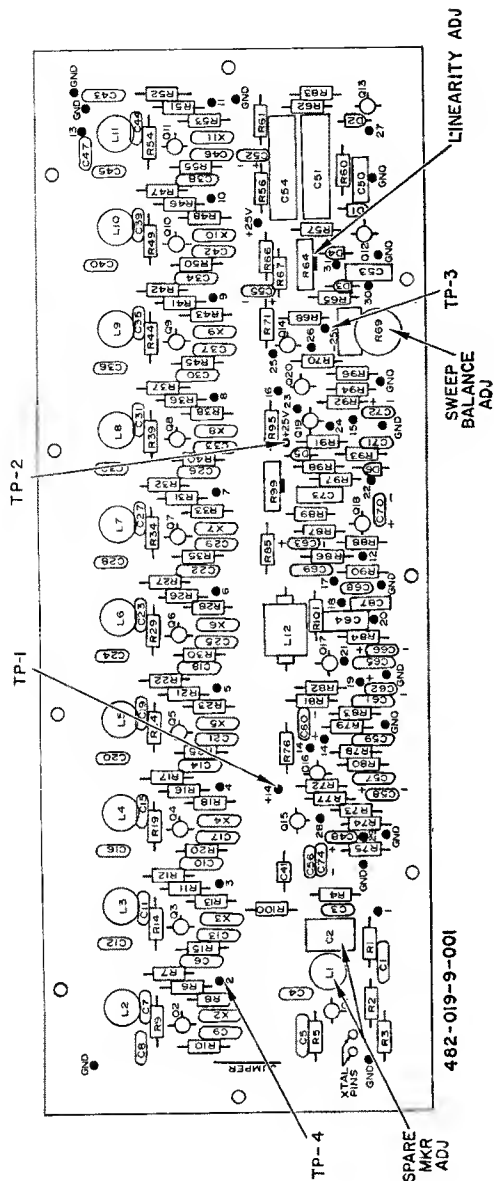

Figure 12.2 Parts Layout for Marker, Waveform Generator, and Pattern Amplifier Board (Viewed from Component Side)
- 12.4.6.2 Turn on the Model 415 and place the CHROMA switch in the OFF position and place the HORIZ SWEEP switch to the REV position. Connect the VTVM to the center pin of the SCOPE HORIZ INPUT jack and note the peak-to-peak reading on the VTVM. Place the HORIZ SWEEP switch to the NORM position and adjust the trimpot R69 (refer to Figure 12.2) for an equal peak-to-peak reading.
(R64, Figure 12.2)